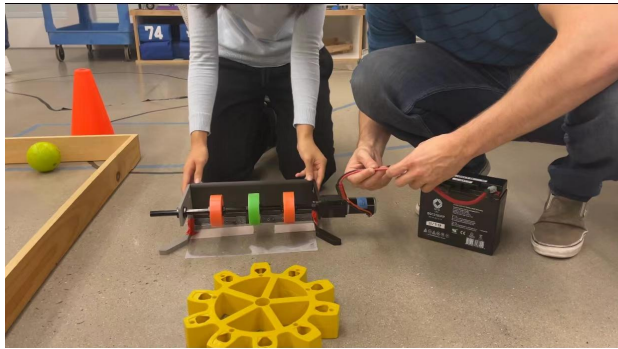

Figure 9. Testing Setup (part. 1)
- Figure 9. Testing Setup \(part. 1\)